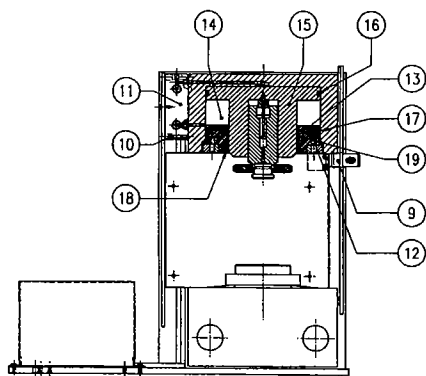

Fig 1b
- 5.1.6 Remove the top guard by unscrewing the handle knob (8) and the screw at the bottom which fixes the magnetic catch (9) (Fig. 1b) to the guard. Then slide completely up.